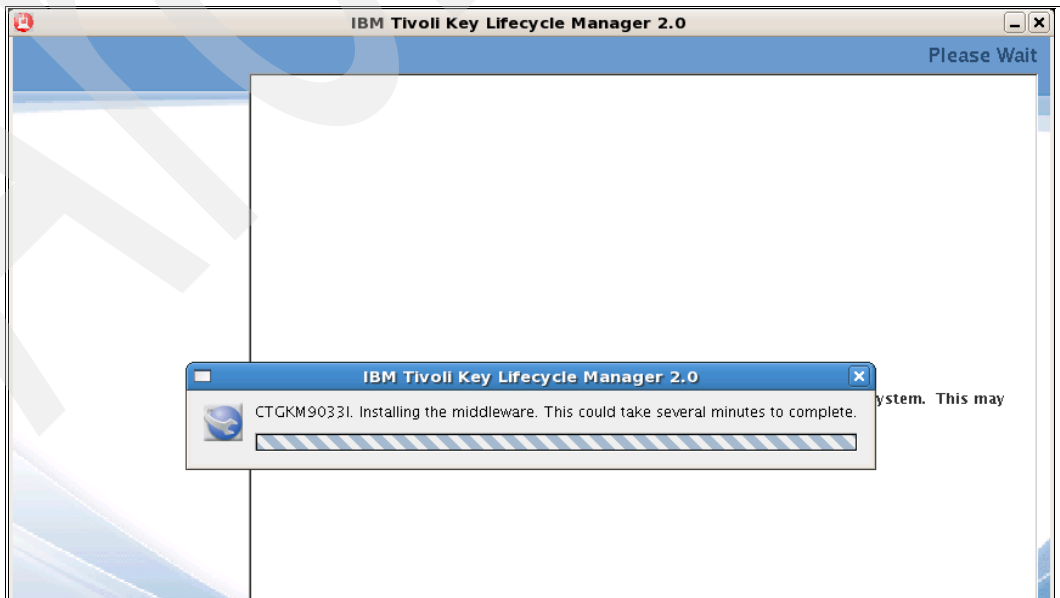

Figure 7-9 Start of TKLM installation
12. The screen shown in Figure 7-9 is displayed while the installation process is taking place. As noted, the installation might take a few minutes. Do not touch the keyboard or mouse during this period, just let it finish.